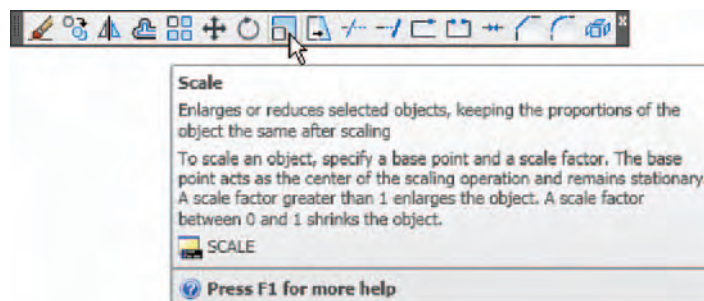

Fig. 5.28 The **Scale** tool icon from the **Home/Modify** toolbar
- Call **Scale** – *left-click* its tool icon in the **Home/Draw** panel (Fig. 5.28), *pick* its tool icon in the **Modify** toolbar, *pick* **Scale** from the **Modify** drop-down-menu or, *click* its tool in the **Modify** toolbar or, *enter* **sc** or **scale** at the command line which then shows: